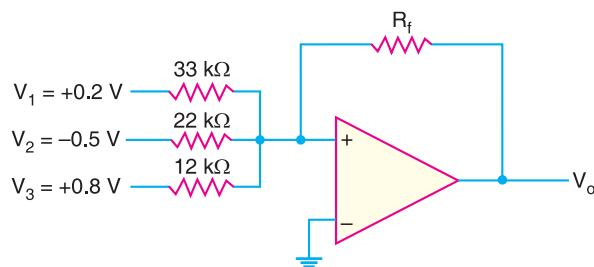

Fig. 25.106
13. Calculate the output voltage of the circuit in Fig. 25.106 for  $R_f = 68 \text{ k}\Omega$ .